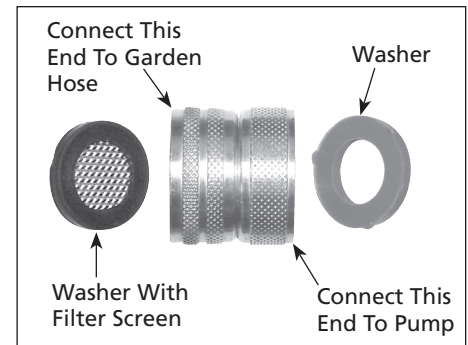
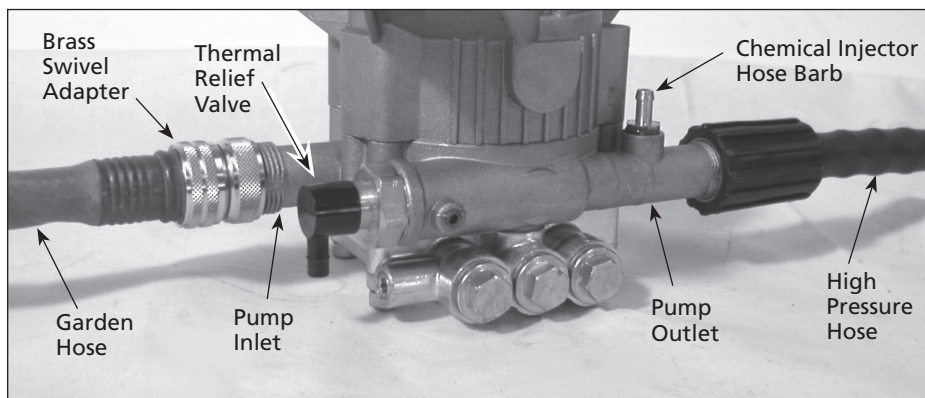

Figure 3 - Brass swivel adaptor
Figure 2 - Pump hook up
1. Attach clear plastic tube to barb on pump (see Figure 2 on page 5).
2. **Brass Swivel Adaptor** (See Figure 2). If it's not already attached to the pump inlet, assemble the brass swivel adaptor and attach it to the pump inlet (See Figure 3 and Figure 4). Be sure to connect the correct side of the brass swivel adaptor to the pump.
4. Connect the high pressure hose to the pump outlet (See Figures 2 and 5).